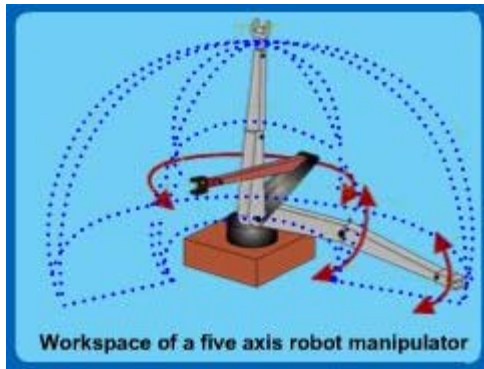

Figure 3.2.4 Articulated Arm
- Articulated type main body robot (typical human arm) (RRR Type) (See Figure 3.2.4)